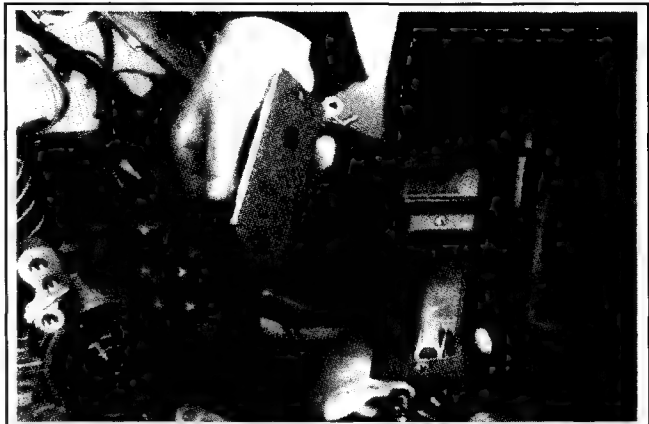

Figure 9-36. Breather Cover Removal.
3. Remove and discard the gasket. See Figure 9-36.